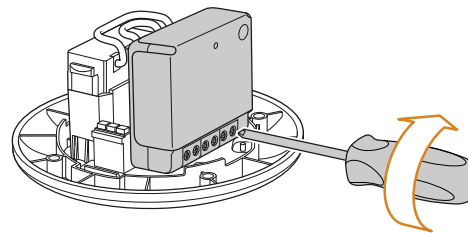

Figure 2
- 3 Screw in the 6 screws of the relay switch, see figure 2.